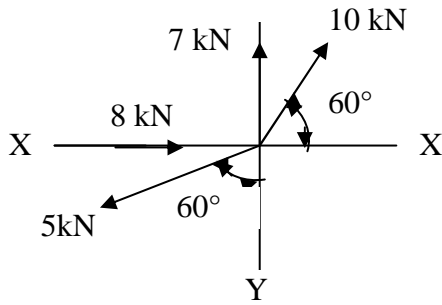

Fig.3 Q-4 (a)
- Q.4(a)** Find resultant of a force system shown in fig.3 **04**